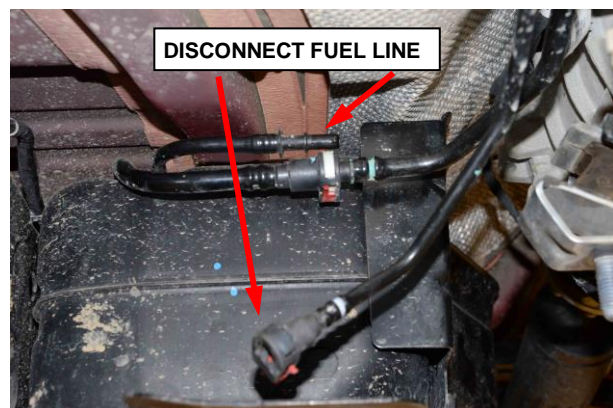

Figure 21 – Fuel Line Connection
31. Disconnect the fuel supply lines at the tank (Figure 21).
2. Install the fuel tank supply line at the front of fuel tank (Figure 21).